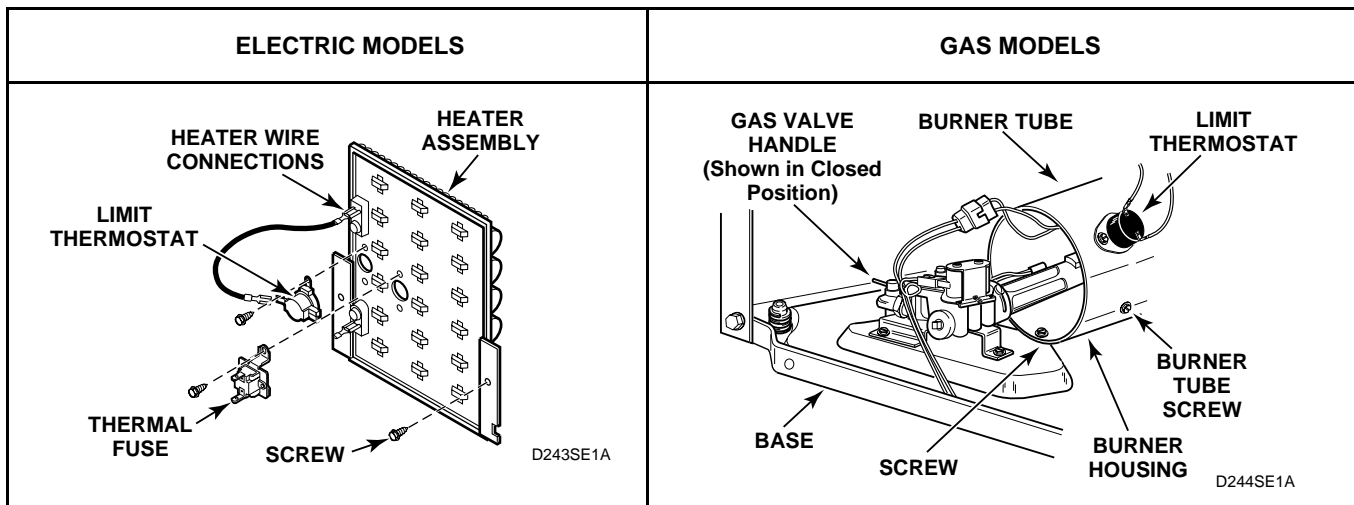

Figure 15
- (1.) Remove one screw from right side of burner housing holding burner tube in place. See *Figure 15*.
- d. Remove screw from right side of burner housing, while holding burner tube in place. See *Figure 15*.
- i. Remove screw holding front of burner housing to dryer base and remove housing out through front of dryer. See *Figure 15*.
- Disconnect wires and remove screws attaching limit thermostat to burner housing or heater assembly. See *Figure 15*.
- Disconnect wires from element and plate. See *Figure 15*.
- Remove two screws holding element and plate to heater box and remove element and plate out through front of dryer. See *Figure 15*.